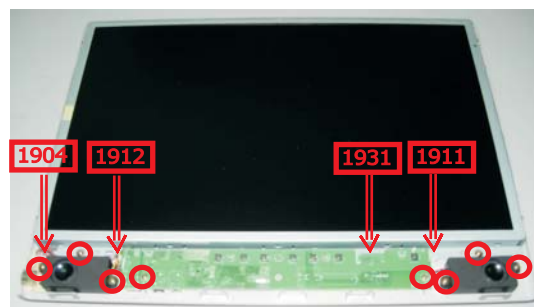

Fig.9
- Remove the eight throws as shown in Fig.9
- Disconnect 1904,1912,1911,1931 from control board as shown in Fig.9 & Fig.10